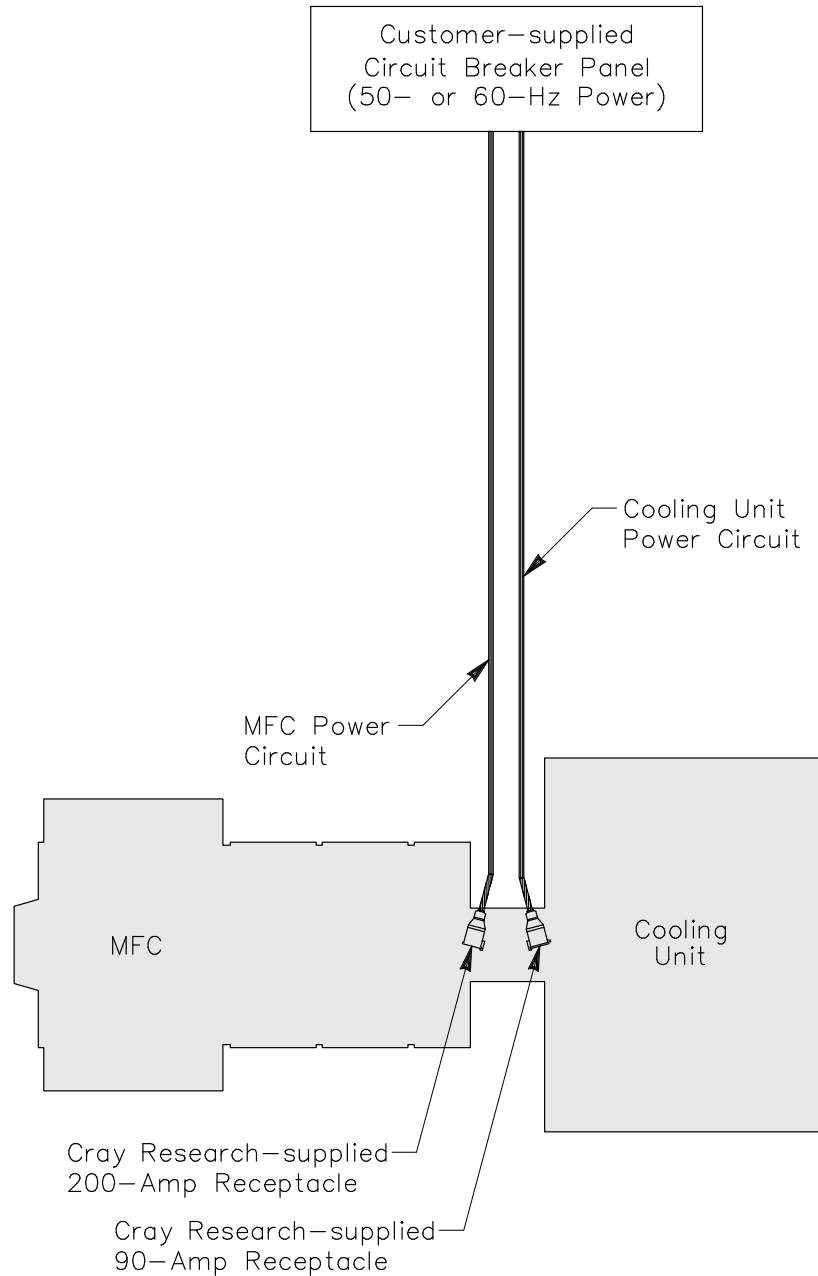

Figure 2. CRAY T3D MCA Computer System Wiring Diagram
You must provide and install all power wiring, circuit breakers, and circuit breaker panels. Refer to Figure 2 for a CRAY T3D MCA computer system wiring diagram.
- Use Figure 2 as a guide for your electrical design engineer. Do not use this figure as a bid document or as a working drawing.
- The equipment arrangement shown in Figure 2 is not an actual equipment layout.